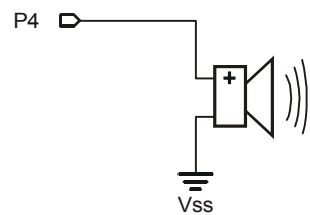

**Figure 2-6**
Whether it's a keypad on an alarm system, microwave oven, or a Boe-Bot, a speaker really helps let you know that the device understood when you pressed that digit key. The speaker shown in Figure 2-6 was already added to your Boe-Bot in Chapter 1, Activity #4. Up until now, it was only used to let you know that the program started (or spontaneously restarted due to low batteries).
- ✓ If you have not already done so, add the speaker circuit shown in Figure 2-6 to your Boe-Bot's prototyping area.